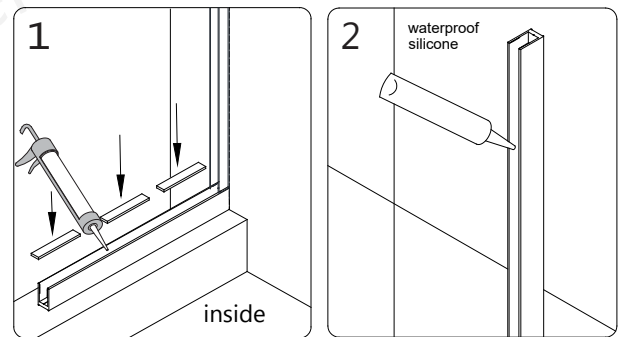

Fig 14
14. Add several 2" pieces of the **PVC Glass Spacer (0.5mm) (#34)** into the **Bottom U-channel** to protect the bottom edge and corners of the glass. Apply a good quality mildew-resistant silicone into both U-channels. **(Fig 14)**